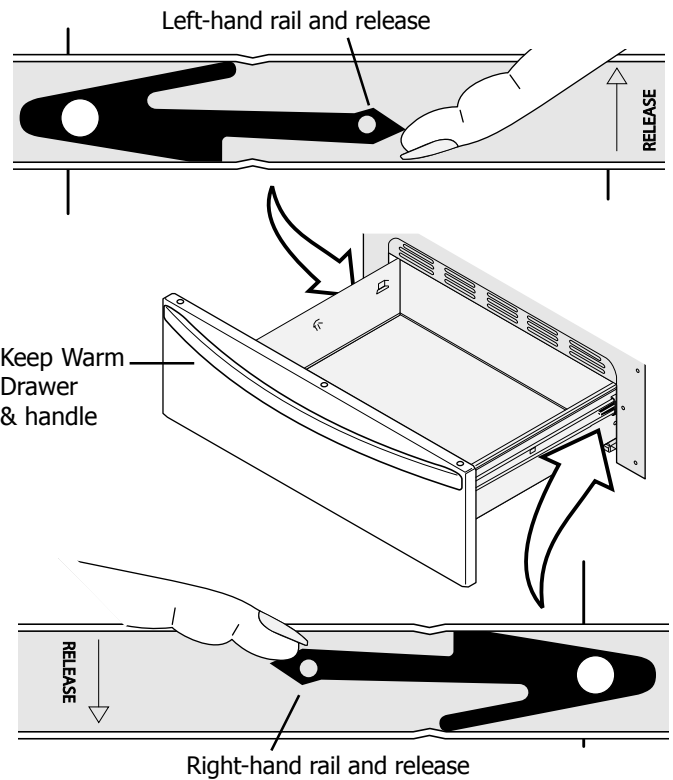

Fig. 1
3. On left drawer rail, locate black release lever and press up with finger while pulling out slightly on the drawer handle. On right drawer rail, locate black release lever and press down with finger while pulling out slightly on the drawer handle (See Fig. 1).